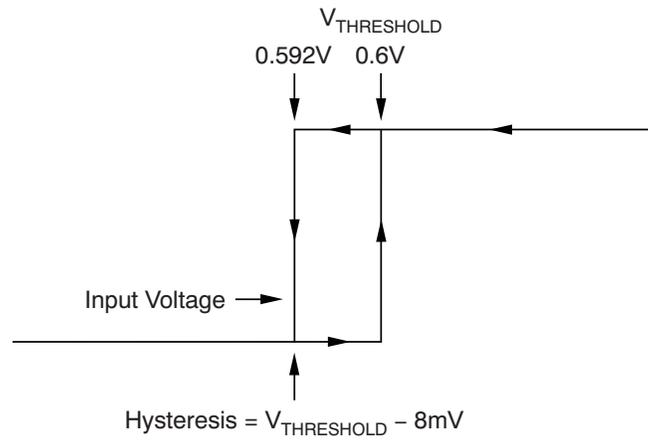

图 1. Typical Comparator Hysteresis
- (1) Hysteresis refers to the threshold (the threshold specification applies to a rising edge of a noninverting input) of a falling edge on the noninverting input of the comparator; refer to Figure 1.
- (2) Specified by design.
- (3) V_{ID} refers to the differential voltage at the comparator inputs.
- (4) Open-drain output can be pulled to the range of 2.7 to 18 V, regardless of V_S .
- (5) The comparator response time specified is the interval between the input step function and the instant when the output crosses 1.4 V.
- (6) The $\overline{\text{RESET}}$ input has an internal 2 M Ω (typical) pull-down. Leaving $\overline{\text{RESET}}$ open results in a LOW state, with transparent comparator operation.